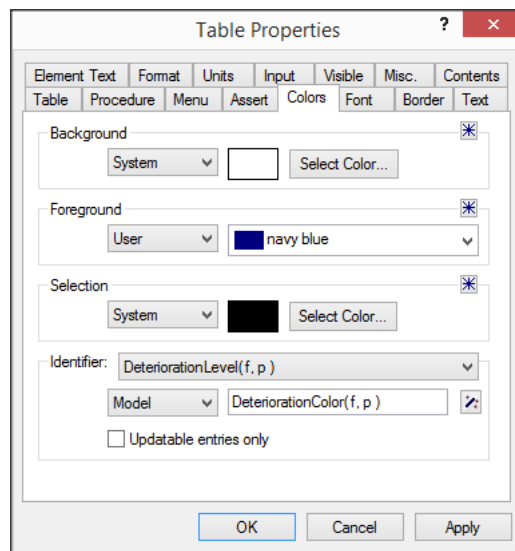

Figure 11.21: The **Colors** tab of the **Table properties** dialog box
- ▶ press the **Wizard** button  (see Figure 11.21) to select the identifier `DeteriorationColor(f,p)`, and